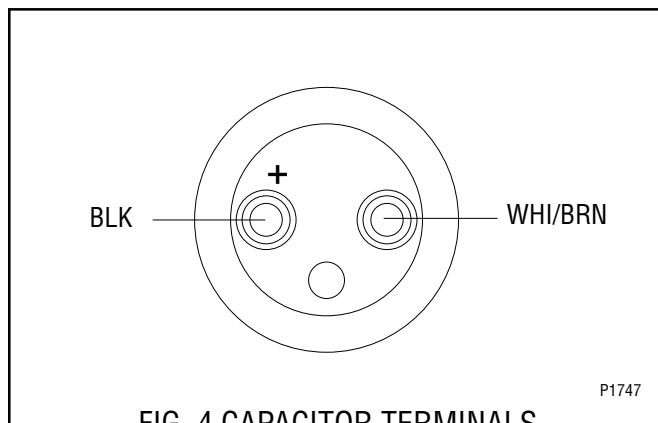

FIG. 4 CAPACITOR TERMINALS
3. Disconnect the wiring harness from the capacitor and attach it to a new capacitor making sure the black wire attaches to the positive (+) pole, FIG. 4.